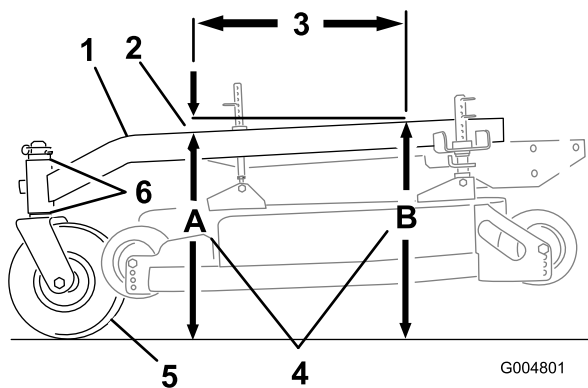

Figure 58
The carrier frame must have a pitch between 1/8 inch (3 mm) to 3/8 inch (9 mm) over the length of 24 inches (61 cm) on the carrier frame (Figure 58).
- Measure out 24 inches (61 cm) on the carrier frame (Figure 58).
- Measure carrier frame height at location **A** (Figure 58).
- Measure carrier frame height at location **B** (Figure 58).
- The height at location **A** must be an 1/8-3/8 inch (3 mm -10 mm) lower than location **B** (Figure 58).
- If the carrier frame is not correct, move caster spacers to make it an 1/8-3/8 inch (3 -10 mm) pitch (Figure 58). Move spacers from top or bottom to make the correct pitch.